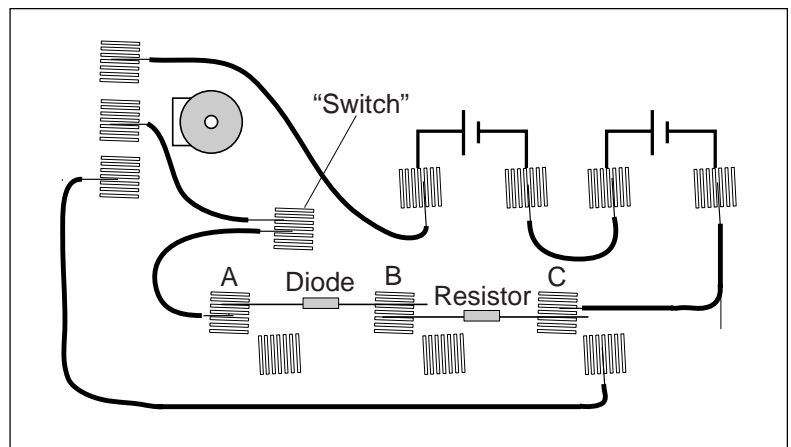
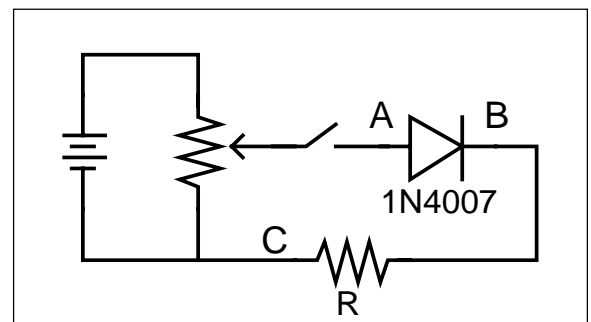

Figure 9.1a
Figure 9.1b
- ① Connect the circuit shown in Figure 9.1a using the 1N4007 diode you've been supplied and the 1000- Ω resistor. Use Figure 9.1b as a reference along with Figure 9.1a as you record your data. Note the direction that the diode is oriented, with the dark band closer to point **B**.
- ② With the "switch" closed and the current flowing, adjust the potentiometer until there is a voltage of 0.05 volt between points **B** and **C** (V_{BC}). Measure the voltage across the diode (V_{AB}). Record your values in the left-hand side of Table 9.1 under "Forward Bias".
- ③ Adjust the potentiometer to attain the following values for V_{BC} : 0.1, 0.2, 0.3,.....2.0 volts. Record the two voltages for each case.
- ④ Remove the 1000- Ω resistor and replace it with a 330- Ω resistor. Repeat steps 3 & 4, going from a voltage of 0.3, 0.4,.....2.0 volts. Record the two voltages in each case.
- ⑤ Reverse the orientation of the diode. Set the diode voltage (V_{AB}) to the values 0.5, 1.0,....3.0 volts. Measure the resistor voltage (V_{BC}) in each case. Record these values in the columns labeled "Reverse Bias".